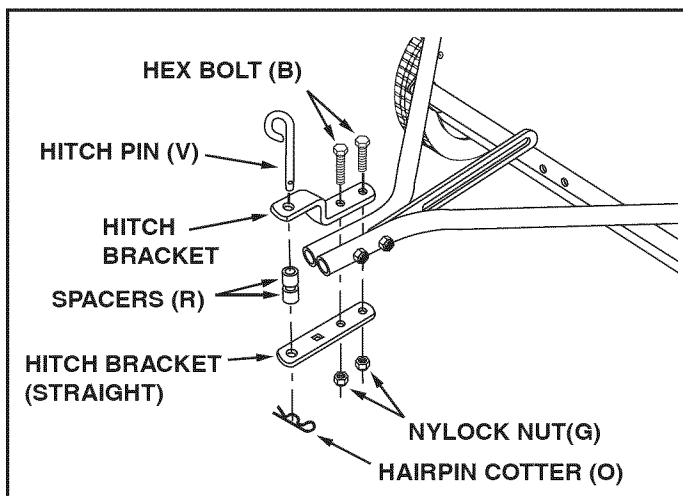

FIGURE 4
- Assemble the bent hitch bracket on top and the straight hitch bracket to the bottom of the hitch tubes. Fasten with two hex bolts (B) and nylock nuts (G) as shown in figure 4. The bolts should straddle the front hitch tube bolt. **Do not tighten yet.**
- Assemble the hitch pin (V), two spacers (R) and the hairpin cotter (O) to the hitch brackets. See figure 4.